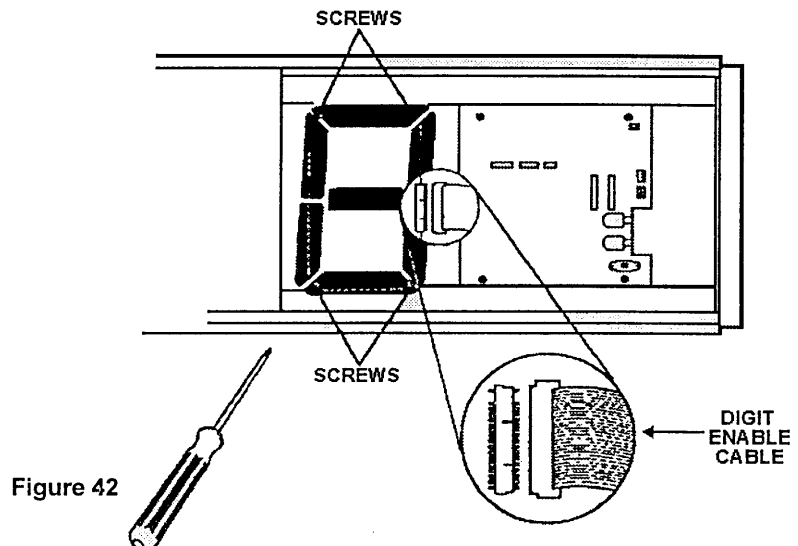

Figure 42
- Step 4** Remove the digit module, see Fig. 42 below.